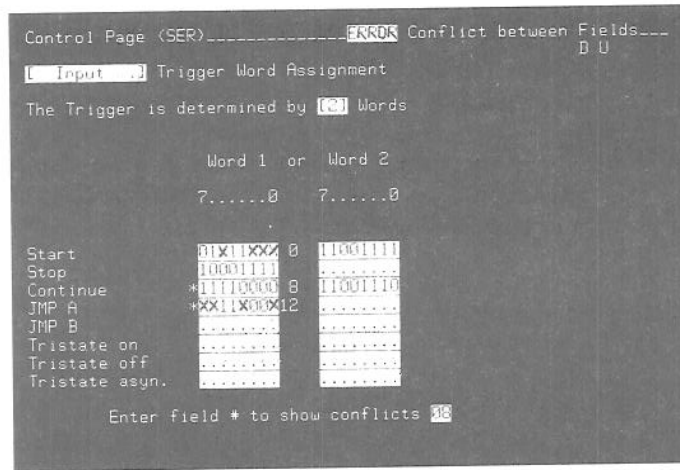

Figure 3D-7 Use of "Enter field#" to Identify Conflict Patterns
**[Flag] Assignment menu** (Refer to Figure 3D-8)